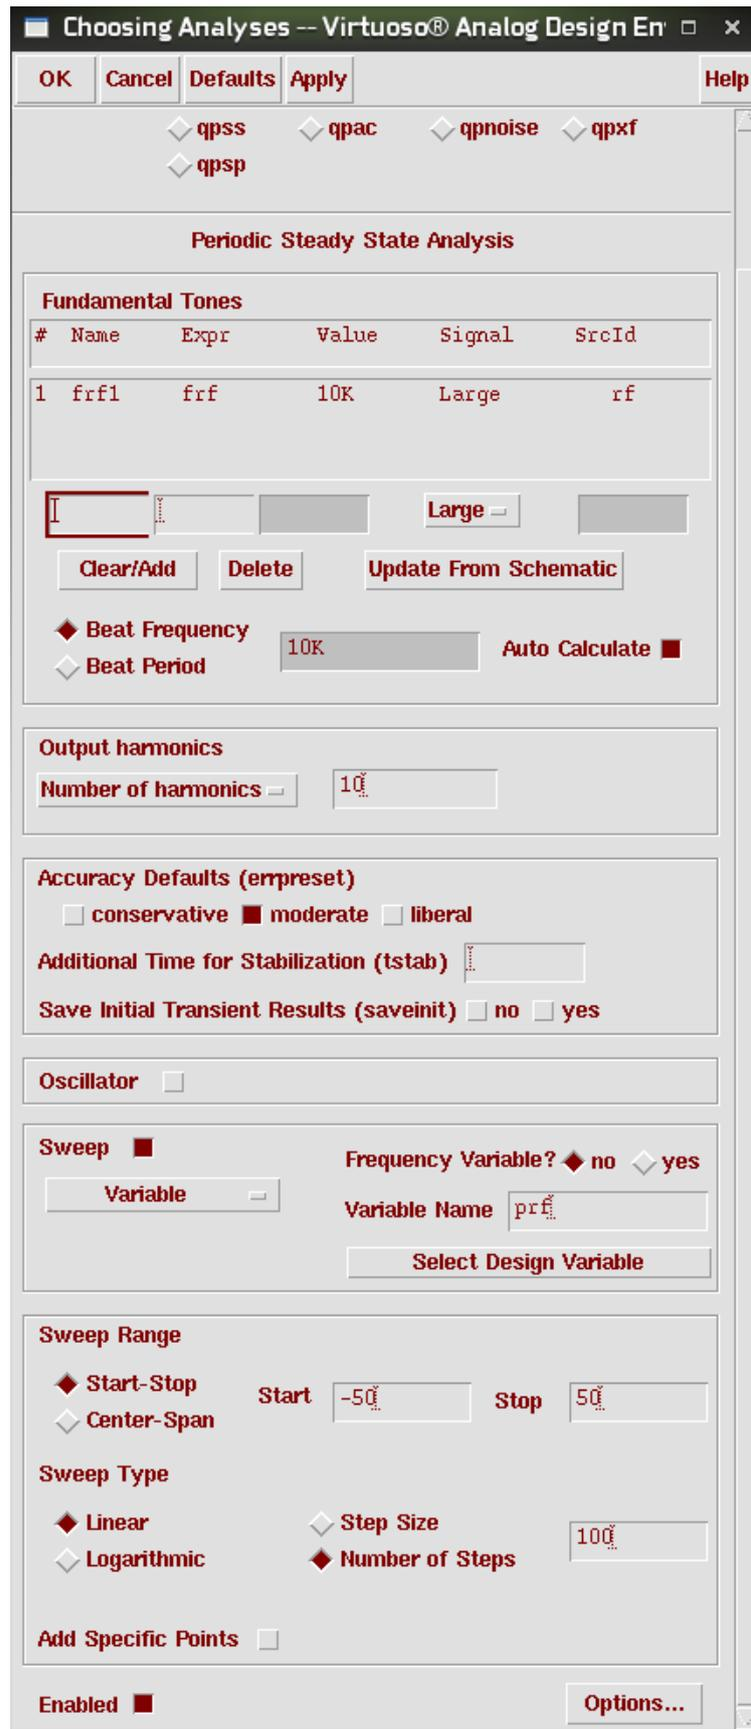

Figure 4.2: Setup PSS analysis
2. Setup PSS analysis. (Refer Fig. 4.2)